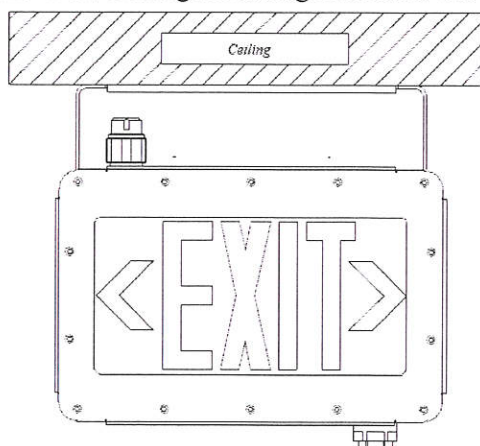

Figure 1
1. Insert the field wiring leads (2) through the conduit (not shown, provided in the field).
- ☞ The mount bracket is for the use of both Wall mount (Figure 1) and Ceiling mount (Figure 2).